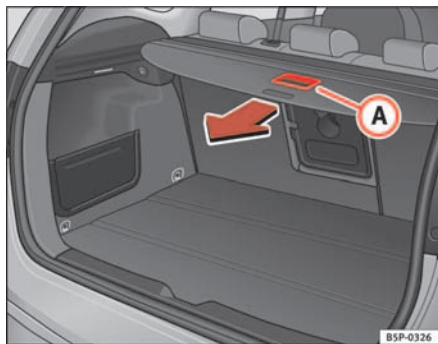

Fig. 120 Operating the stowage compartment tray
- Pull the tray backwards using the lever **A** until you hear a “click” ⇒ fig. 120.